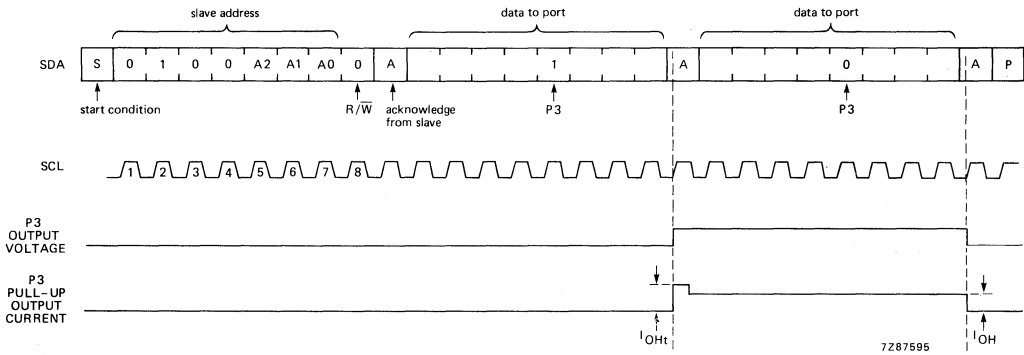

Fig. 16 Transient pull-up current  $I_{OHt}$  while P3 changes from LOW-to-HIGH and back to LOW.
**Quasi-bidirectional I/O ports (see Fig. 16)**
during acknowledge (see Fig. 16)